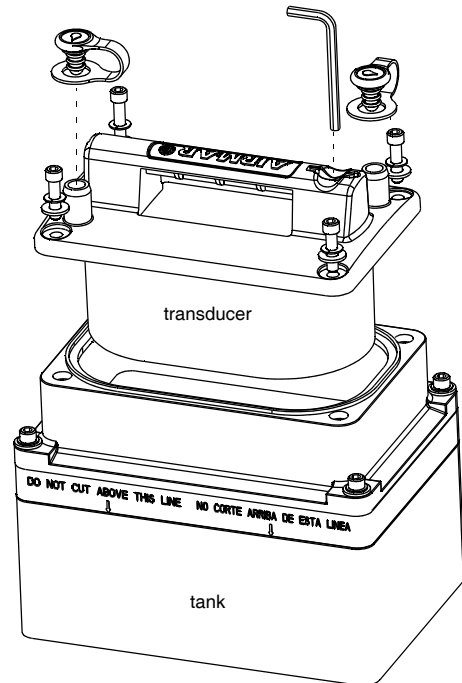

Figure 1. Exploded view (M260 shown)
1. The tank can be disassembled for installation in tight places. *Do not disassemble the tank unless it is necessary.* If the tank will be installed as one unit, lightly tighten the socket-head cap screws that hold the two halves of the tank together using the Allen wrench supplied (see Figure 1). (Use a blade screwdriver to remove the Allen wrench from the handle of the transducer. After use, replace the Allen wrench in the recess.)